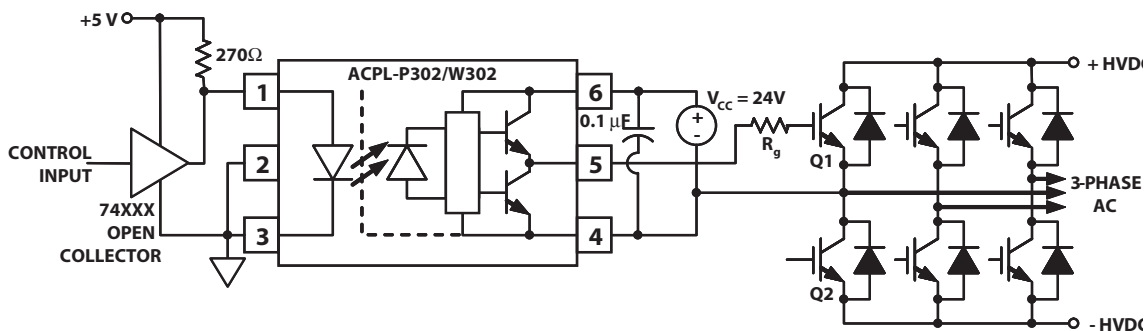
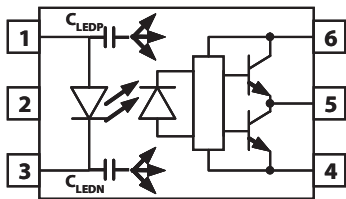
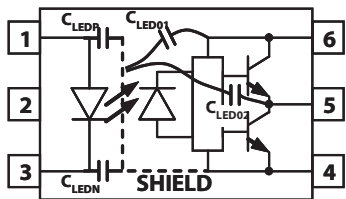
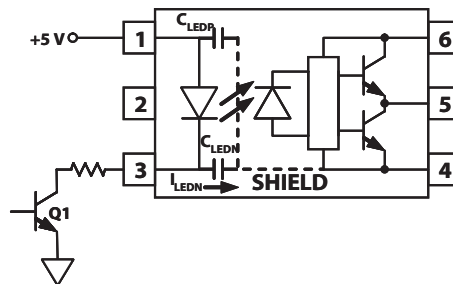

Figure 17. Recommended LED Drive and Application Circuit for ACPL-P302/W302
Figure 19. Optocoupler Input to Output Capacitance Model for Unshielded Optocouplers.
Figure 20. Optocoupler Input to Output Capacitance Model for Shielded Optocouplers.
Figure 22. Not Recommended Open Collector Drive Circuit.
To keep the IGBT firmly off, the ACPL-P302/W302 has a very low maximum V_{OL} specification of 1.0 V. Minimizing R_g and the lead inductance from the ACPL-P302/W302 to the IGBT gate and emitter (possibly by mounting the ACPL-P302/W302 on a small PC board directly above the IGBT) can eliminate the need for negative IGBT gate drive in many applications as shown in Figure 17. Care should be taken with such a PC board design to avoid routing the IGBT collector or emitter traces close to the ACPL-P302/W302 input as this can result in unwanted coupling of transient signals into the input of ACPL-P302/W302 and degrade performance. (If the IGBT drain must be routed near the ACPL-P302/W302 input, then the LED should be reverse biased when in the off state, to prevent the transient signals coupled from the IGBT drain from turning on the ACPL-P302/W302.
Step 1: Calculate R_g minimum from the I_{OL} peak specification. The IGBT and R_g in Figure 17 can be analyzed as a simple RC circuit with a voltage supplied by the ACPL-P302/W302.
where $K_{ICC} \cdot Q_g \cdot f$ is the increase in I_{CC} due to switching and K_{ICC} is a constant of 0.001 mA/(nC*kHz). For the circuit in Figure 17 with I_F (worst case) = 10 mA, $R_g = 57.5 \Omega$, Max Duty Cycle = 80%, $Q_g = 100$ nC, $f = 20$ kHz and $T_{AMAX} = 85^\circ\text{C}$:
Without a detector shield, the dominant cause of optocoupler CMR failure is capacitive coupling from the input side of the optocoupler, through the package, to the detector IC as shown in Figure 19. The ACPL-P302/W302 improves CMR performance by using a detector IC with an optically transparent Faraday shield, which diverts the capacitively coupled current away from the sensitive IC circuitry. However, this shield does not eliminate the capacitive coupling between the LED and optocoupler pins 5-8 as shown in Figure 20. This capacitive coupling causes perturbations in the LED current during common mode transients and becomes the major source of CMR failures for a shielded optocoupler. The main design objective of a high CMR LED drive circuit becomes keeping the LED in the proper state (on or off) during common mode transients. For example, the recommended application circuit (Figure 17), can achieve 10 kV/ μ s CMR while minimizing component complexity.
The open collector drive circuit, shown in Figure 22, can not keep the LED off during a $+dV_{CM}/dt$ transient, since all the current flowing through C_{LEDN} must be supplied by the LED, and it is not recommended for applications requiring ultra high CMR_L performance. The alternative drive circuit which like the recommended application circuit (Figure 17), does achieve ultra high CMR performance by shunting the LED in the off state.